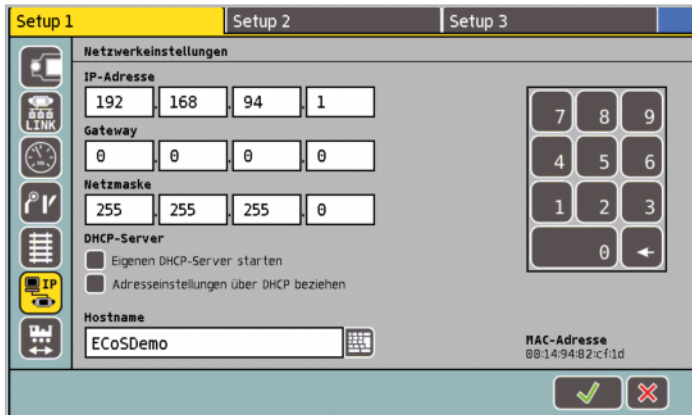

Figure 8
- If the "Get IP Address from DHCP" box is ticked, then click on the box to remove the tick, see Figure 8.